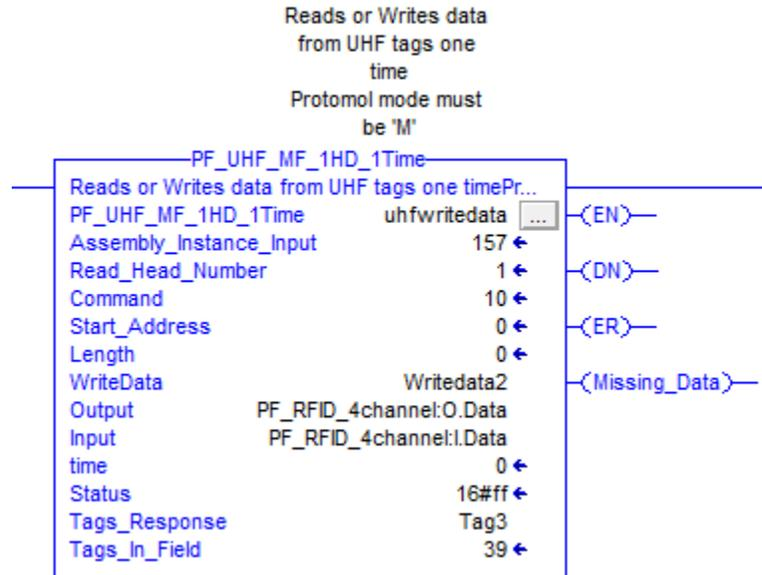

Figure 18: Single Read/write add-on instruction
**Tags\_Response** (USER\_Data\_PF[40])– This is the location where all read tags are placed. This is a user defined variable that contains a lot of information for each tag. See Figure 18.